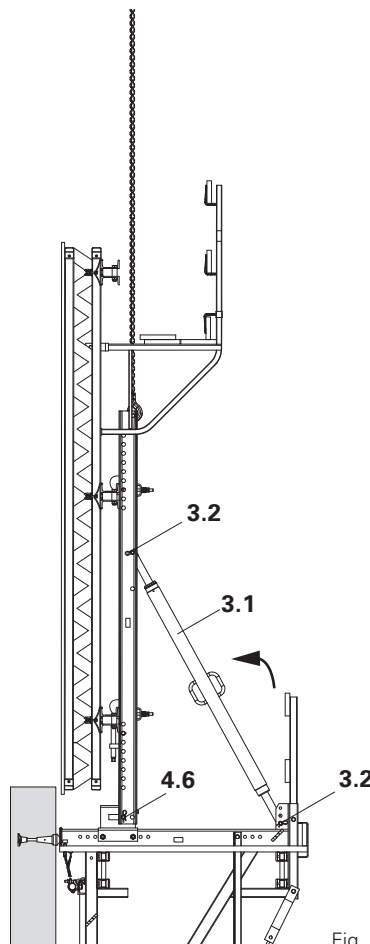

Fig. B2.05c
Standard case: use those holes in the strongback facing the wall. (Fig. B2.05c)
5. Fix Adjustable Brace 164-224 (3.1) to the bracket using bolts and cotter pins (3.2). Spindle to approx. length and attach to strongback. (Fig. B2.05c)